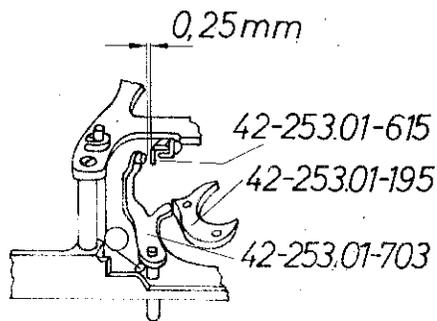

Fig. 21.1
2.14 In the case of a faulty reading at the 1/1000 second setting of the shutter speed dial check whether the separation between the contacts of the flash setting lever 42-253.01-615 and the flash contact bar 42-253.01-703 is 0.25 mm. (see fig. 21.1). If necessary bend the contact on the flash contact bar 42-253.01-703 into the required position with the bending tool 42-253.01-U443 W5.
2.15 In the case of an incorrect reading at the 1/60 second setting of the shutter speed dial remove the cover plate (see sheets 1 and 2) and the rangefinder (see sheet 6). Bend the arm of the flash contact bar 42-253.01-703 bearing against the cam 42-253.01-195, using the bending tool 42-253.01-U443 W6 (see fig. 21.1). If the contact is made too late, bend this arm to the left; if the contact is too early, bend to the right.